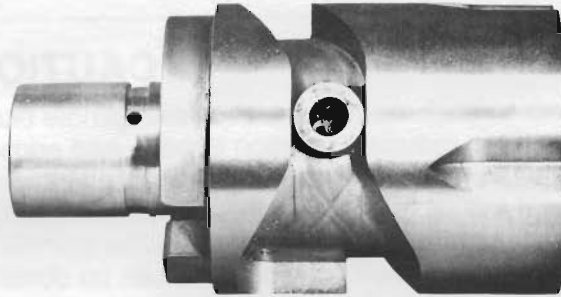

Figure 2-11
2. Slowly crank the handwheel until the Reversing Lever Cam Roll (#00-91-215-246-1) (#2 and #3 — 91-215-18) is in the center of the Reversing Cam (#00 — 42-16290) (#2 and #3 — 42-20006) path half way between the two pockets in the cam (Figure 2-10). In this position the cam roll is centered and cannot move from side to side. See Figure 2-11 for Reversing Cam and Roll removed from machine.